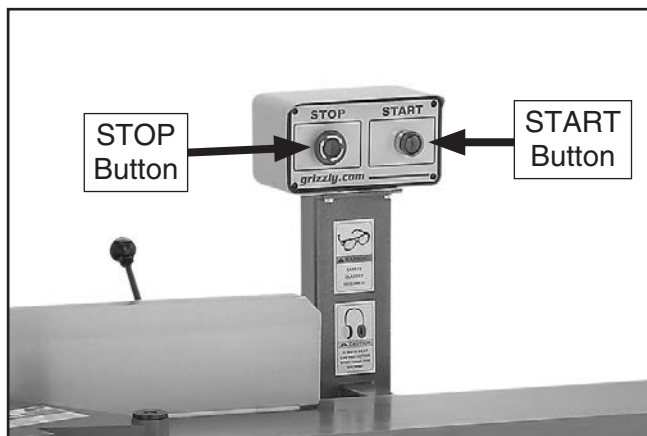

Figure 28. STOP/START button locations.
1. Push STOP button in (see **Figure 28**).